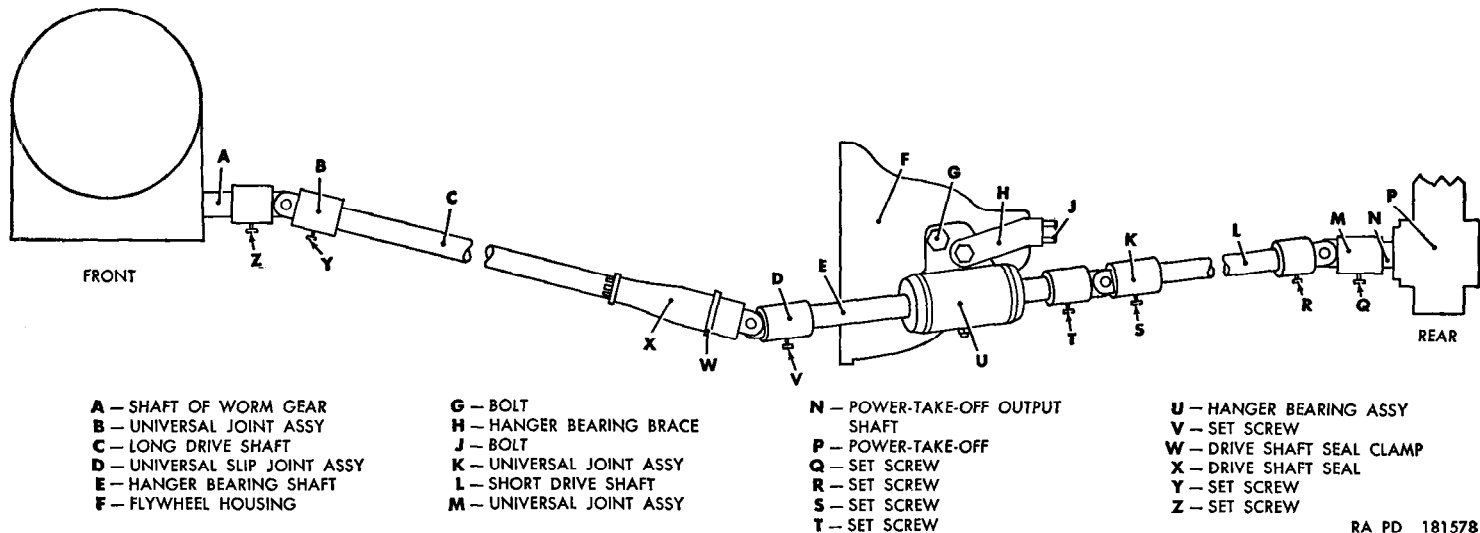

Figure 82. Winch drive shafts and universal joints.
*Note.* The key letters noted in parentheses are in figure 82, except where otherwise indicated.
(fig. 82)